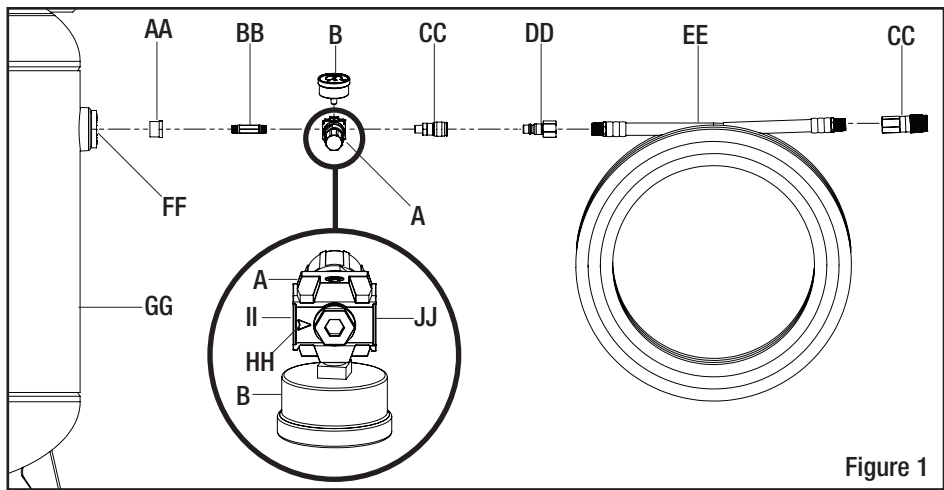

Figure 1
- When installing the regulator (A) to the outlet port (FF) on the side of the air compressor tank (GG), a reducer bushing (AA) will be needed to reduce the threads so a pipe nipple (BB) will fit. Reference Figure 1.
- Thread a reducer bushing (AA) into the outlet port (FF) and tighten using an adjustable wrench.
- Thread a pipe nipple (BB) into the reducer bushing (AA).
- Tighten the pipe nipple (BB) with either an adjustable wrench or a pipe wrench, depending on the type of pipe nipple used.
- Thread the inlet port (II) of the regulator (A) onto the end of the pipe nipple (BB).